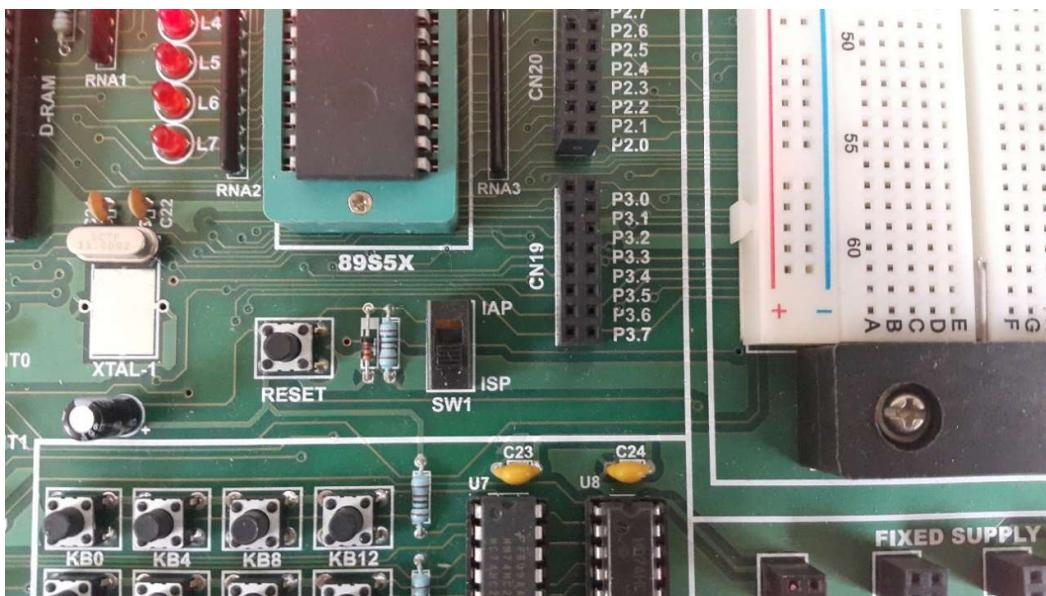

Figure 3.15: Setting SW1 to ISP
- b. Set the switch 1 (SW1) to ISP as shown in Figure 3.15.